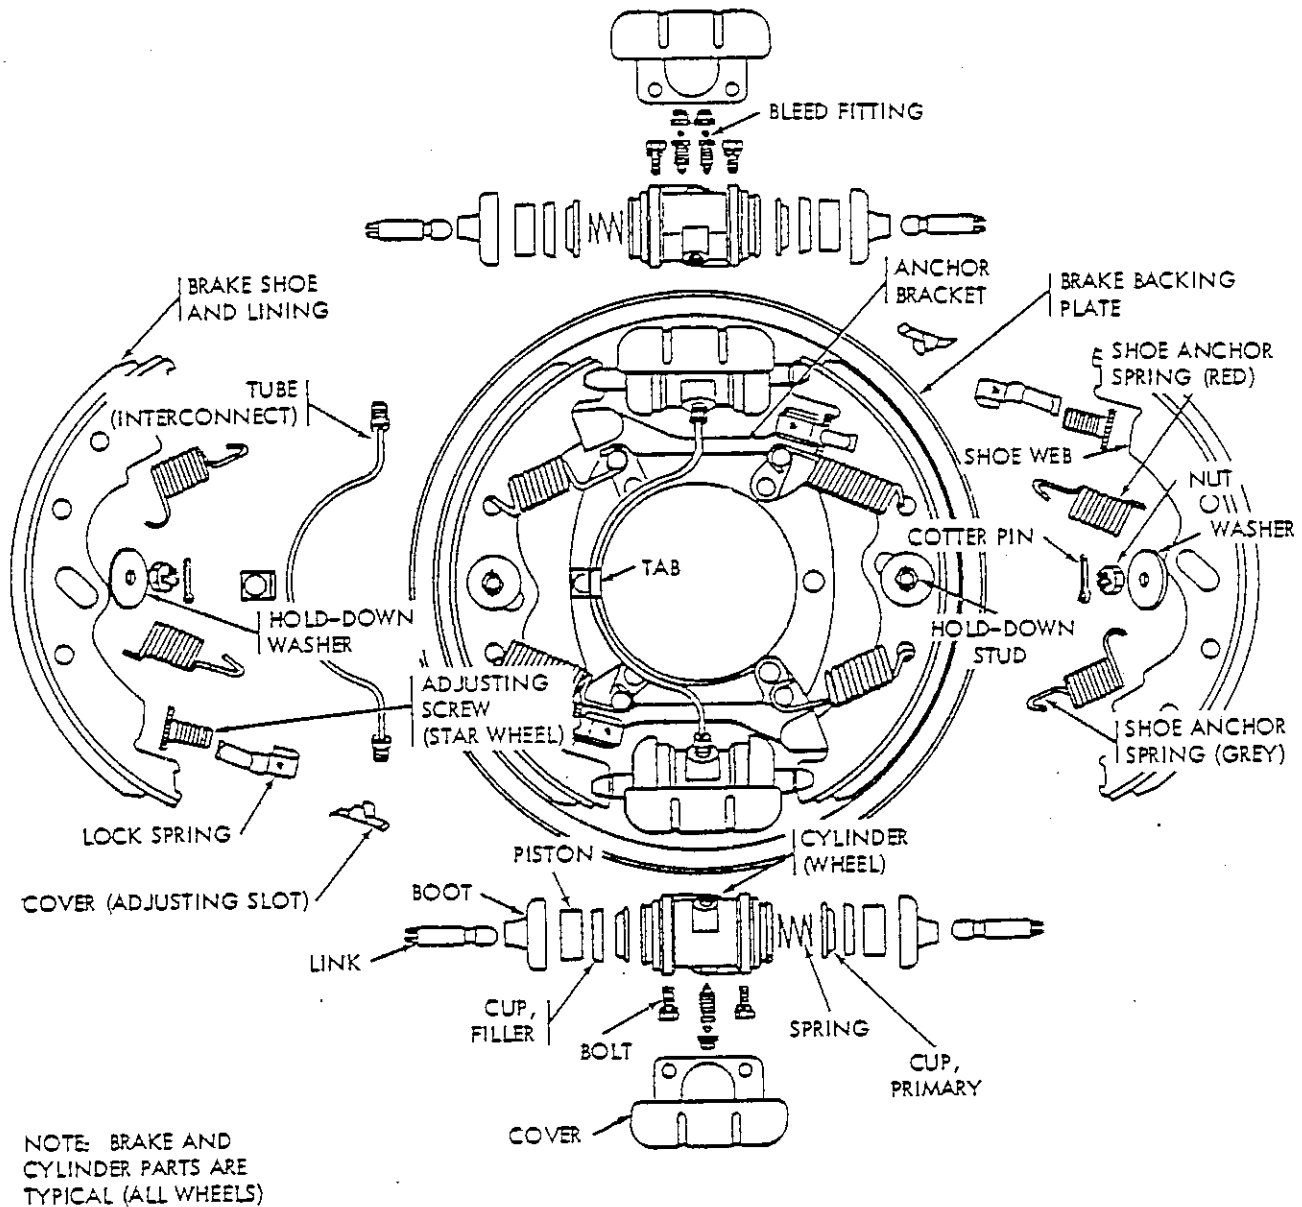

Figure 9-4. Brake Assembly (Typical)
g. Brake Assembly (fig. 9-4). The four brake assemblies, two in the forward braking system and two in the rear, contain identical components, as shown in figure 9-4. The brake assemblies are located inside the drums of each of the four wheels. Each of the four brake assemblies has two brake-shoe-actuating wheel cylinders. A connector (jump-